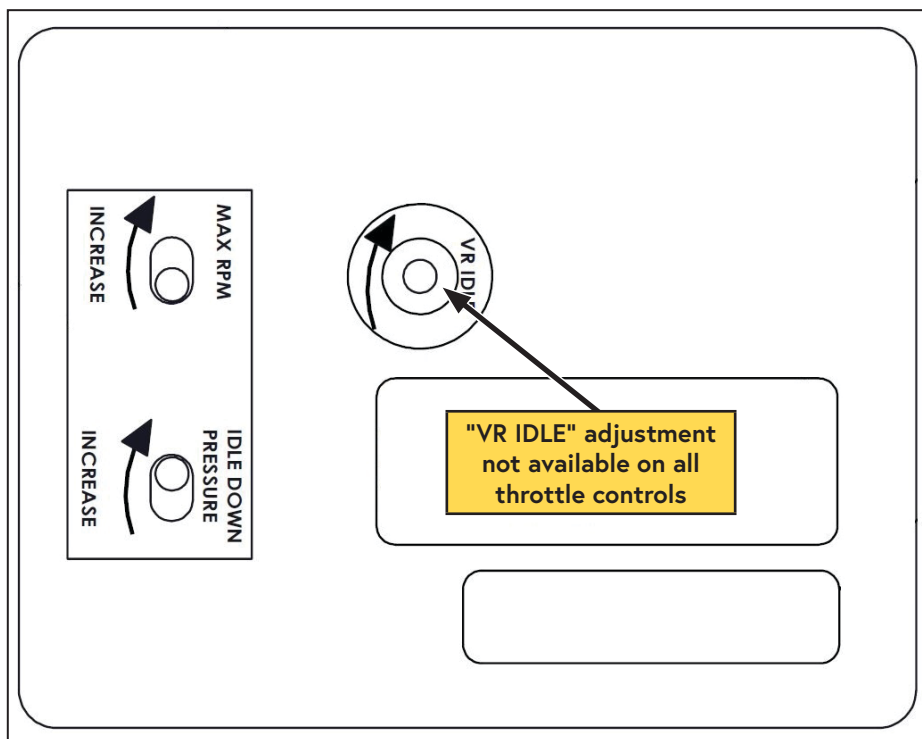

Figure 36 — Analog throttle control adjustments
Turn the screws counterclockwise to decrease engine speed or IDP, or clockwise to increase engine speed or IDP. The throttle control uses 20 turn adjustment screws, turning the screws past this point will not damage the throttle control (Figure 36).
- ☐ Turn the "MAX RPM" adjustment screw clockwise to increase engine speed and counterclockwise to decrease engine speed (Figure 36 on page 55).